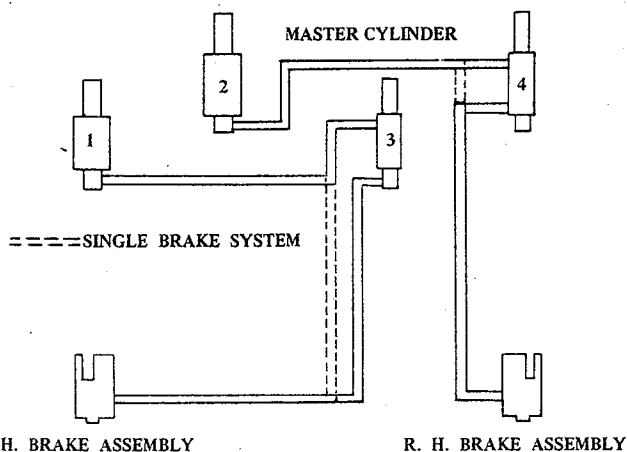

FIGURE 8-4 SCHEMATIC - HYDRAULIC BRAKE SYSTEM - DUAL
The optional dual hydraulic brake system used in the Yankee is unique in the fact it requires no additional reservoir. The system is designed for dual operation and incorporates two types of master cylinders. Pressure applied to the left master cylinder (1, Figure 8-4) passes through an integral piston by-pass port in the right master cylinder (3, Figure 8-4) and on to the left wheel brake assembly. Pressure applied to the right master cylinder (3, Figure 8-4) closes the port and applies the left wheel brake assembly. If pressure is applied to both cylinders simultaneously, the force from the left cylinder is applied to the top of the piston in the right cylinder, nearly doubling the pressure at the wheel brake assembly. Master cylinders 2 and 4 operate in the same manner. When the brake pedals for cylinders 3 and 4 are in neutral position, the ports are open for direct flow to the brake assemblies from cylinders 1 and 2.
1. Remove the vent plugs from master cylinders (1 and 2, Figure 8-4) and replace with overflow lines. Immerse the free ends of the overflow lines in a can containing enough hydraulic fluid to cover the ends of the lines.